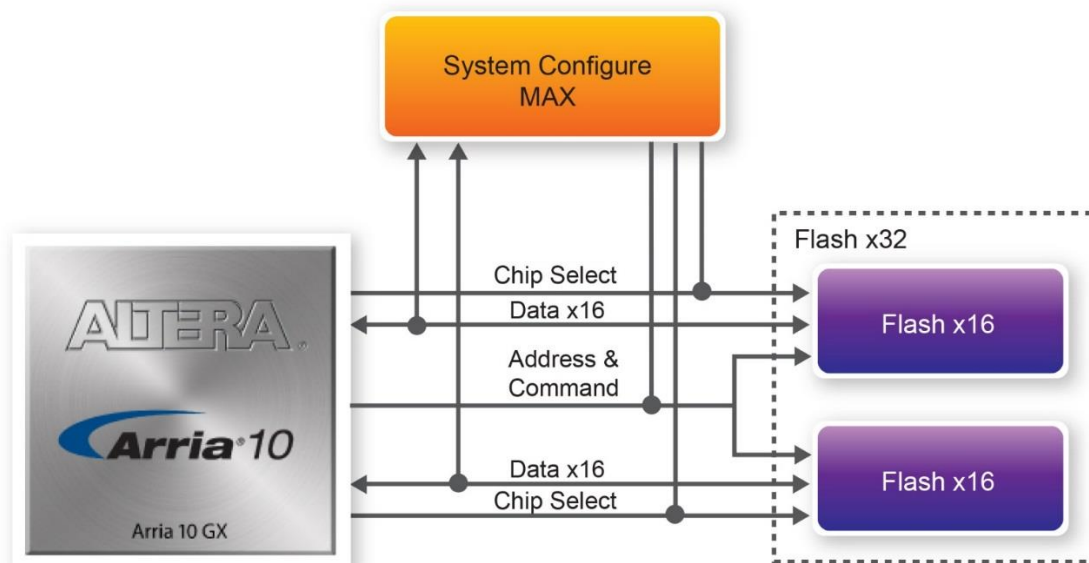

Figure 2-11 Connection between the Flash, Max and Arria 10 GX FPGA
Each interface has a 16-bit data bus and the two devices combined allow for FPP x32 configuration. This device is part of the shared flash and MAX (FM) bus, which connects to the flash memory and MAX V CPLD (5M2210) System Controller. **Figure 2-11** shows the connections between the Flash, MAX and Arria 10 GX FPGA.